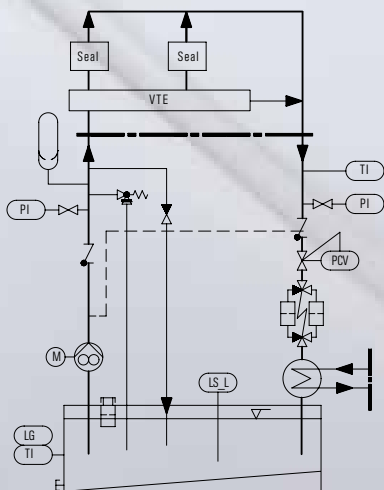

Fig. 1: Sample diagram of a pressurized barrier fluid system with a distributor unit (VTE).
1) Pressurized barrier fluid system, e.g. the EagleBurgmann SPA; a single compact unit provides all of the functionality of a barrier system. Fig. 1 contains a diagram of this type of system.